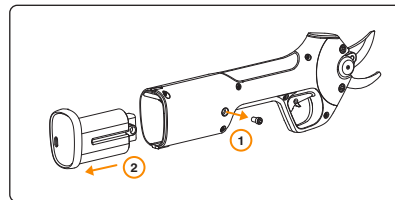

Figure 6. Removing and changing the battery.
- Remove the Allen screw 4mm from the cover as described in the Figure 6.